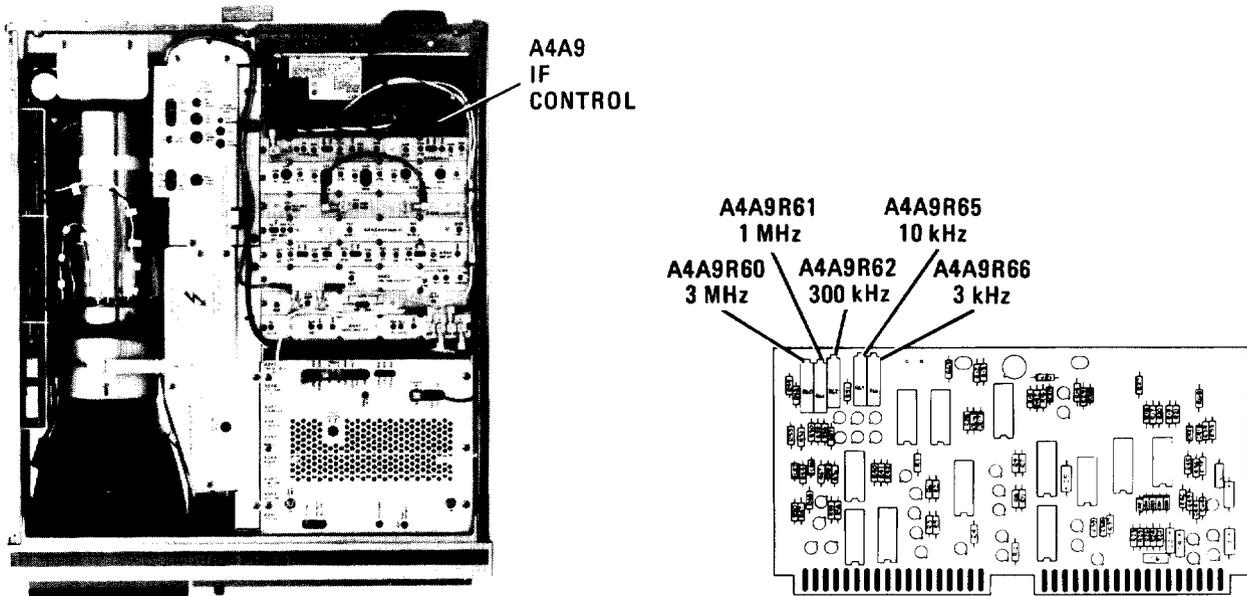

FIGURE 31. LOCATION OF 3-dB BANDWIDTHS ADJUSTMENTS
8. Adjust A4A9R60 3 MHz for MKR Δ indication of 1.5 MHz while maintaining marker at 3-dB point (.707 X) using DATA knob. Refer to Figure 31 for location of adjustment.
14. Adjust A4A9R61 1 MHz for MKR Δ indication of 500 kHz while maintaining marker at 3-dB point (.707 X) using DATA knob. Refer to Figure 31 for location of adjustment.
20. Adjust A4A9R62 300 kHz for MKR Δ indication of 150 kHz while maintaining marker at 3-dB point (.707 X) using DATA knob. Refer to Figure 31 for location of adjustment.
26. Adjust A4A9R65 10 kHz for MKR Δ indication of 5.00 kHz while maintaining marker at 3-dB point (.707 X) using DATA knob. Refer to Figure 31 for location of adjustment.
32. Adjust A4A9R66 3 kHz for MKR Δ indication of 1.5 kHz while maintaining marker at 3-dB point (.707 X) using DATA knob. Refer to Figure 31 for location of adjustments.